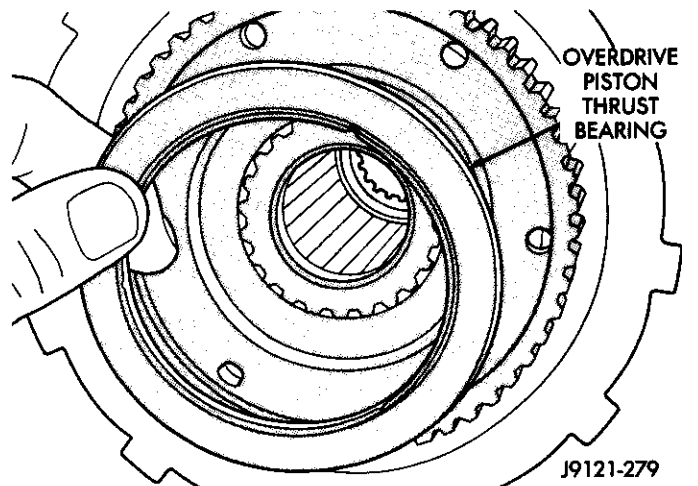

Fig. 4 Removing Overdrive Piston Thrust Bearing
- (4) Remove overdrive piston thrust bearing from direct clutch hub (Fig. 4).